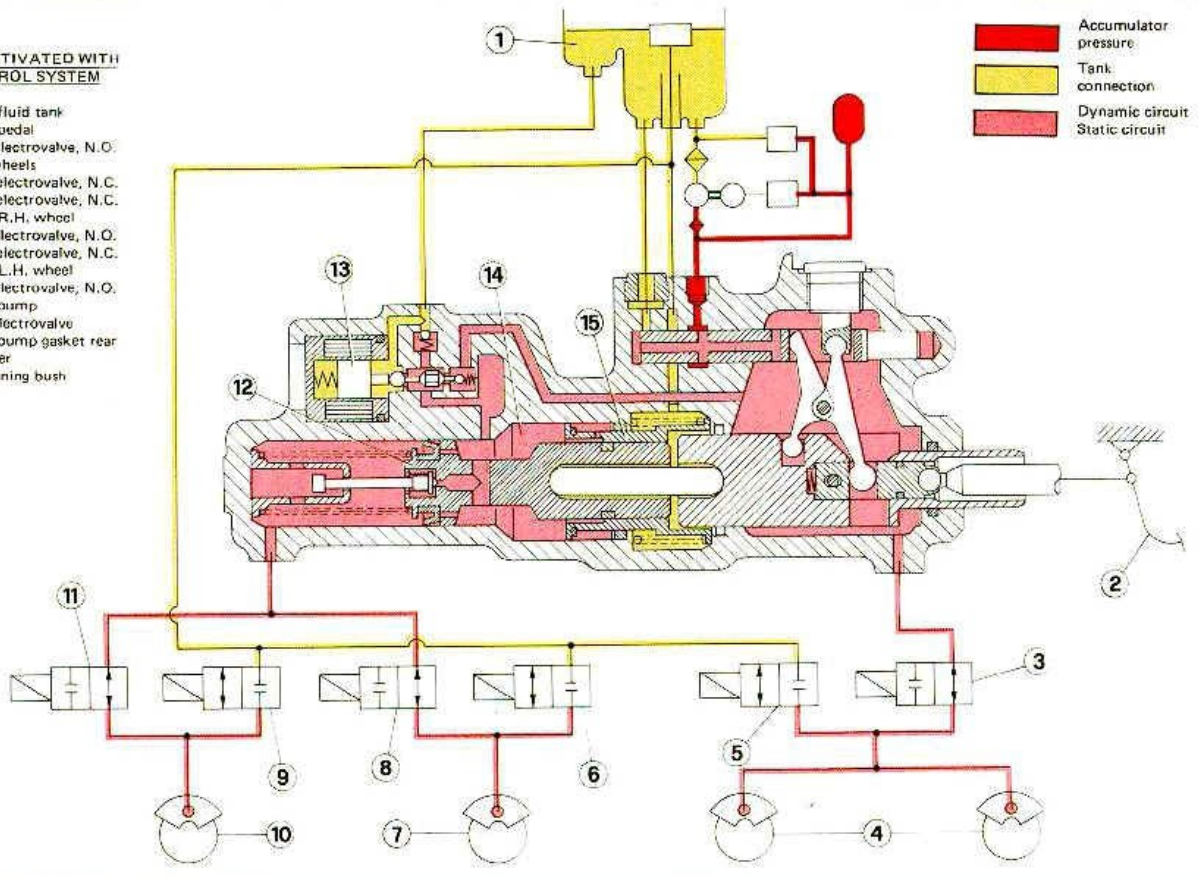

FIG. 5
At the same time the main electrovalve (13) is energized and the dynamic circuit (rear) is connected to the static one (see figure 5). When the wheel being braked starts to regain speed, following the decrease in pressure at the calipers, the drain electrovalve is closed and the loading one opened again. In this way, pressure is gradually restored to the brake calipers by means of the main electrovalve which connects the static circuit to the dynamic one, until the next tendency to lock is detected, at which point the cycle repeats itself.